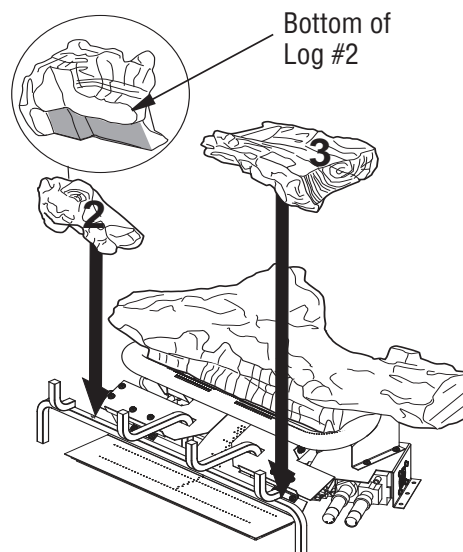

Figure 22 - Installing Logs #2 and #3
2. Place left bottom log (#2) onto base assembly as shown in **Figure 22**. See detail in drawing for contour on bottom of log. Log will fit over metal brackets and flat onto base assembly